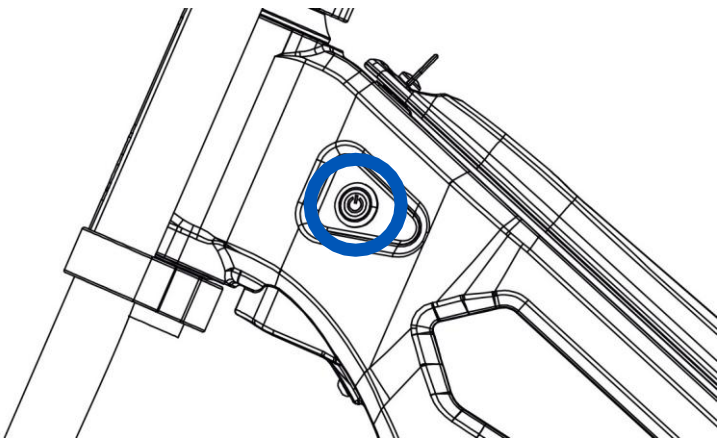

Fig. 12
- 3- Press the power button located on the left side of the top of the frame (Fig. 12).
- 1- Press the power button located on the left side of the upper frame (Figure 12).
- 2- To resume driving, press the power button again located on the left side of the upper frame (Figure 12).